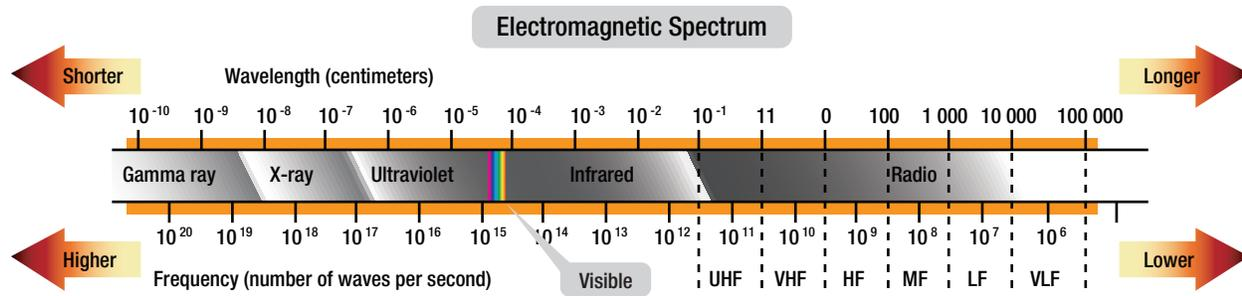

Figure 4-1. Radio waves are just some of the electromagnetic waves found in space.
Light is a form of electromagnetic radiation. It is part of the wide spectrum of electromagnetic radiation that surrounds us at all times. Visible light is a relatively small part of the spectrum. (Figure 4-1)
The wavelength of visible light is usually measured in a unit called the Angstrom (A): $1A = 10^{-10}m$. Various colors of visible light have characteristic wavelengths. They also have characteristic frequencies since the frequency of light \times wavelength = speed of light. With symbols this is written $f\lambda = c$. Figure 4-1 lists various colors of light and their respective wavelengths.